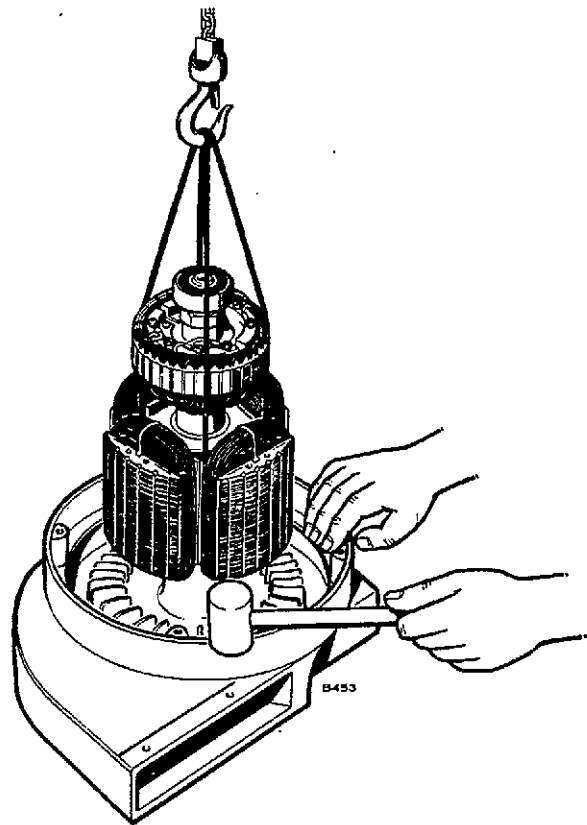

FIGURE 63. ROTOR AND FAN REMOVAL
9. Remove rotor and fan by using a soft-faced hammer to tap on the adapter while holding the rotor assembly about one inch above bench with a hoist and rope sling, Figure 63.